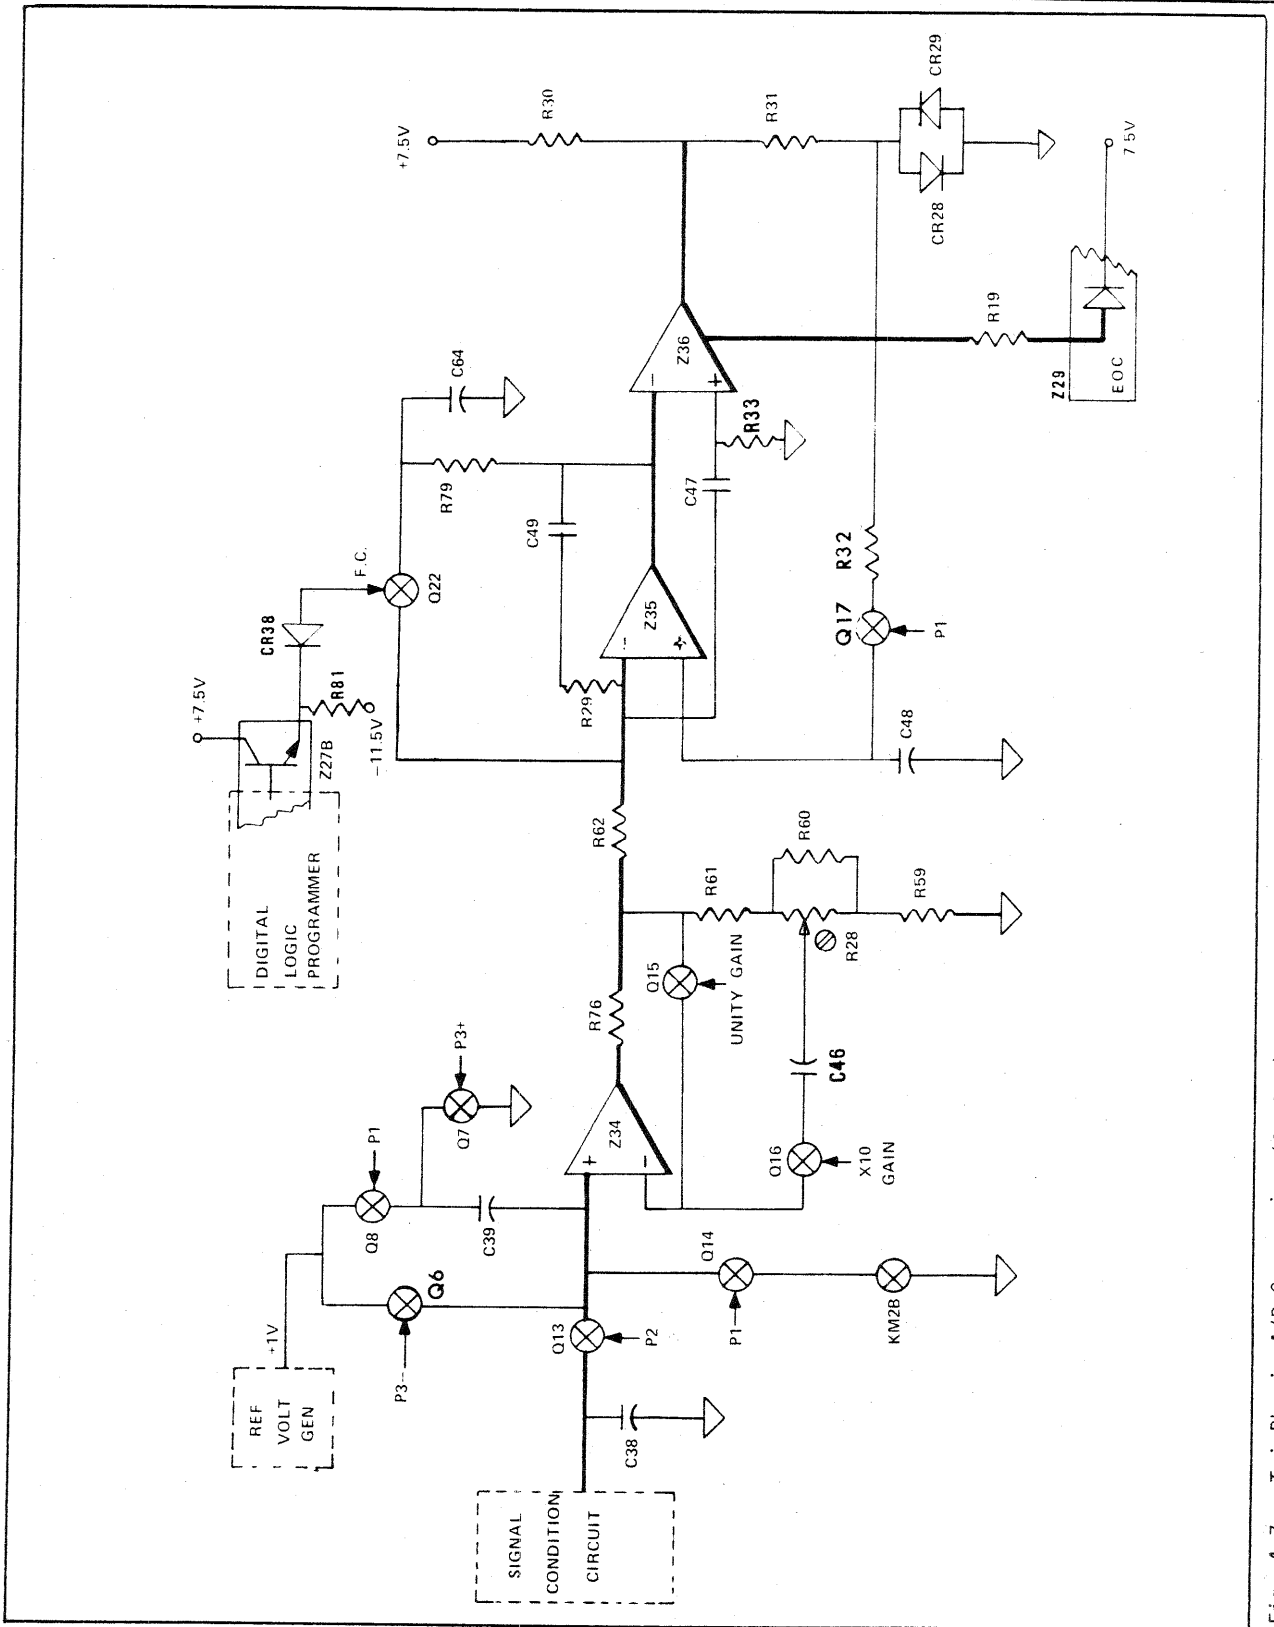

Fig. 4-7. Tri-Phase A/D Conversion (Analog), simplified schematic
4.5 TRI-PHASIC A/D CONVERSION (Figure 4-7)
As explained in the introductory material of Chapter 1, the 3 phases of a Tri-Phasic A/D conversion consist of: Phase 1, during which the voltage-generating drifts are sensed and stored for subsequent compensation; Phase 2, during which the conditioned input (1 volt full scale) is integrated for a fixed time; Phase 3, during which a precision reference voltage is integrated for a time proportional to the magnitude of the conditioned input. Figure 4-7 illustrates the manner in which this technique is instrumented in Model 3400DMM.
As shown in Figure 4-7, the conditioned input is connected to the amplifier buffer stage Z34 during Phase 2 by the operation of FET switch Q13 by signal P2, and either +1V or -1V is connected to Z34 during Phase 3 by the operation of FET switches Q6 or Q7, respectively, to reduce the charge on integrating capacitor C49 resulting from conditioned negative or positive inputs.